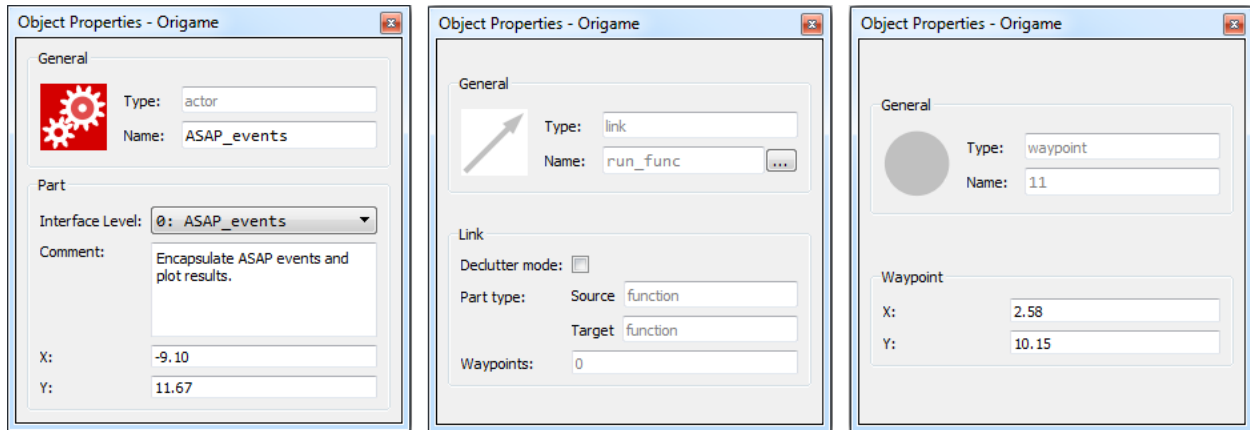

Fig. 3.13: The Object Properties panel showing (left-to-right) part, link, and waypoint properties.
1. *Part* properties that are displayed, shown on the left of Figure 3.13, include the interface level, comments, and position in X and Y coordinates. Each of these properties can be changed from the panel by editing the corresponding field value.
2. *Link* properties, shown in the middle of Figure 3.13, include declutter mode, source part type, target part type, and number of waypoints. Only the declutter mode can be changed from the panel by checking or unchecking the declutter checkbox.
3. *Waypoint* properties, shown on the right of Figure 3.13, include the X and Y position coordinates which can be updated by editing the values in the panel.